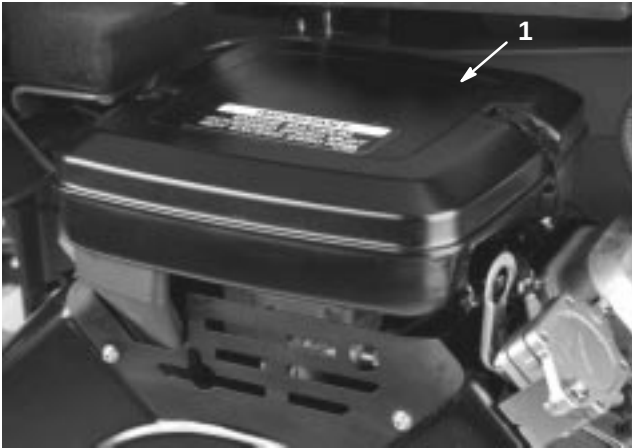

Figure 36
1. Release the locking clips and remove the air cleaner cover (Fig. 36). Clean the cover thoroughly.